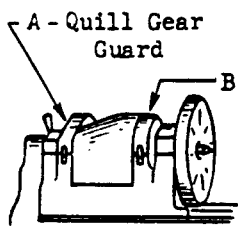

Fig. 1
1. Remove items "A" and "B" (Fig. 1).
1. Remove items "A" and "B" (Fig. 1)